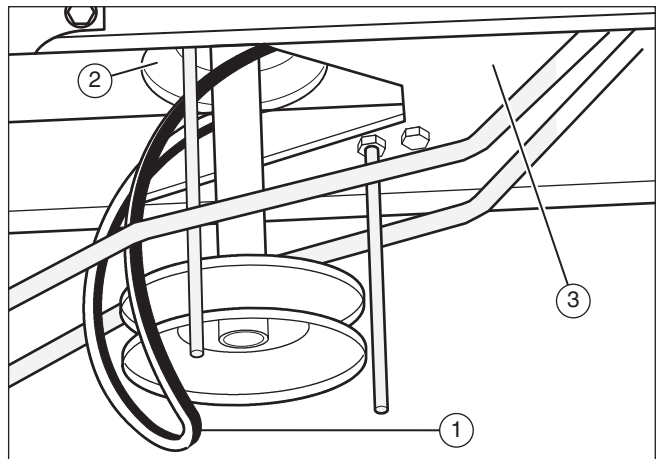

Figure 19
8. To remove the motion drive belt (1) from the stack pulley (2), pull the front end of the belt under the stack pulley and then back between the stack pulley and the steering plate (3) (see **Figure 19**).